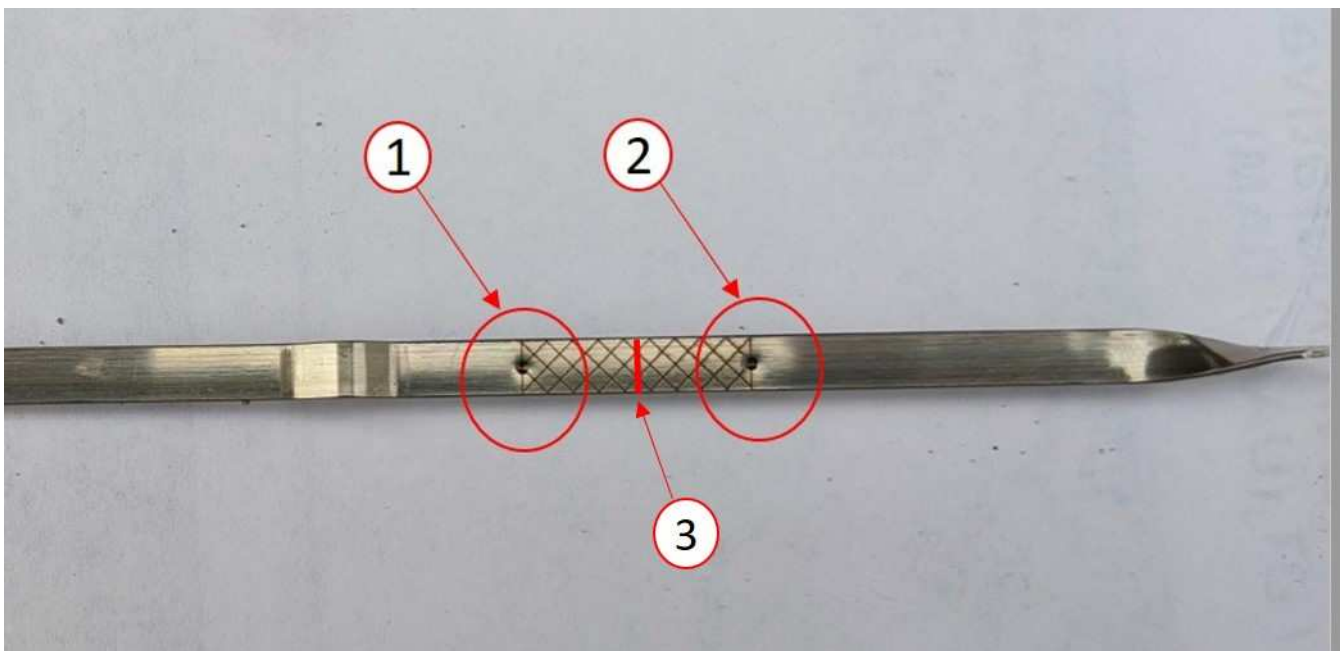

Fig. 2
10. Check the oil level at least 5 minutes after a hot shutdown on a level surface. If the oil level is at or above the half way point between the “FULL” and “ADD” mark the engine is in an acceptable condition and no further service action required (Fig. 2) .
11. ****If the oil level is below the half way point and “ADD” mark (Fig. 2) , please submit a digital imaging request to Powertrain Service Center with a copy of the repair order, maintenance records, oil consumption documentation, serial number, and Repair/Replace Worksheet for authorization for a long block replacement approval.****